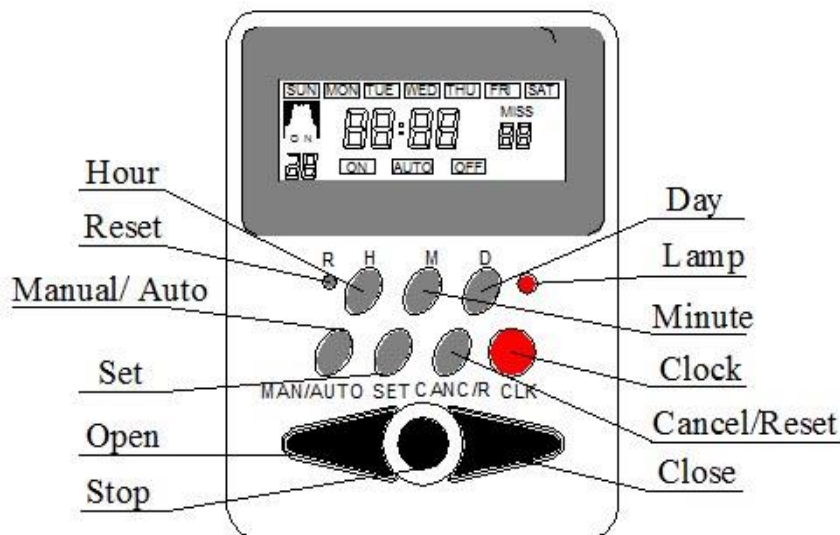
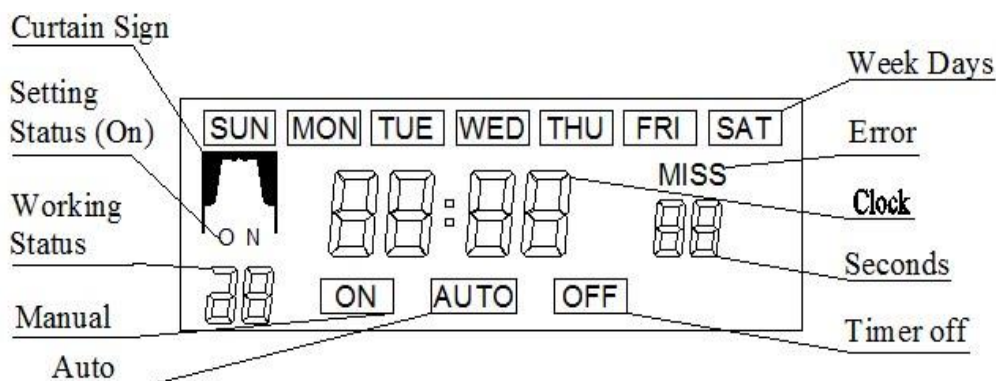

Fig. 1
Fig. 2
- Buttons' Functions as below (Fig. 1)
- LCD Display (Fig. 2)
a. Program the timer (refers to the picture Fig. 1 and Fig. 2)